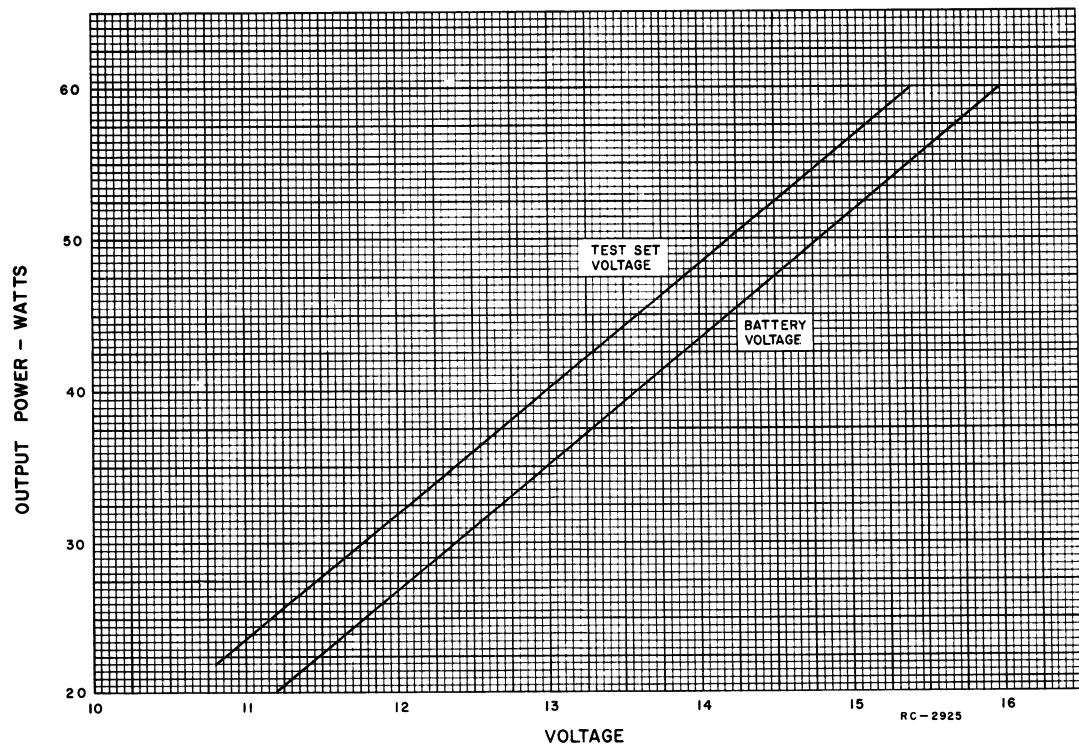

Figure 8 - 450-470 MHz Power Output Setting Chart
1. Connect the test equipment to the transmitter as shown in Figure 8.